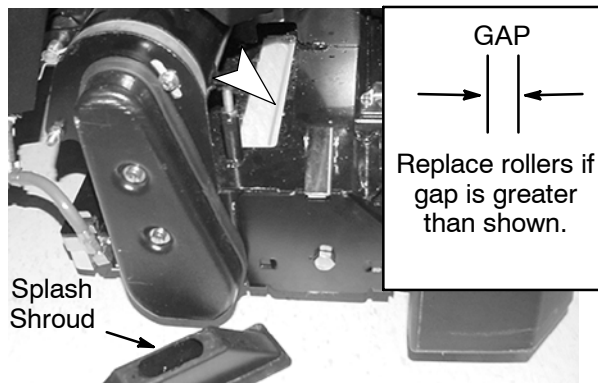

FIG. 29
4. ReadySpace Cleaning: Remove the splash shroud and inspect the rollers for wear. If the gap between the two rollers is greater than 4mm replace the rollers (Figure 29). Always replace rollers as a set.